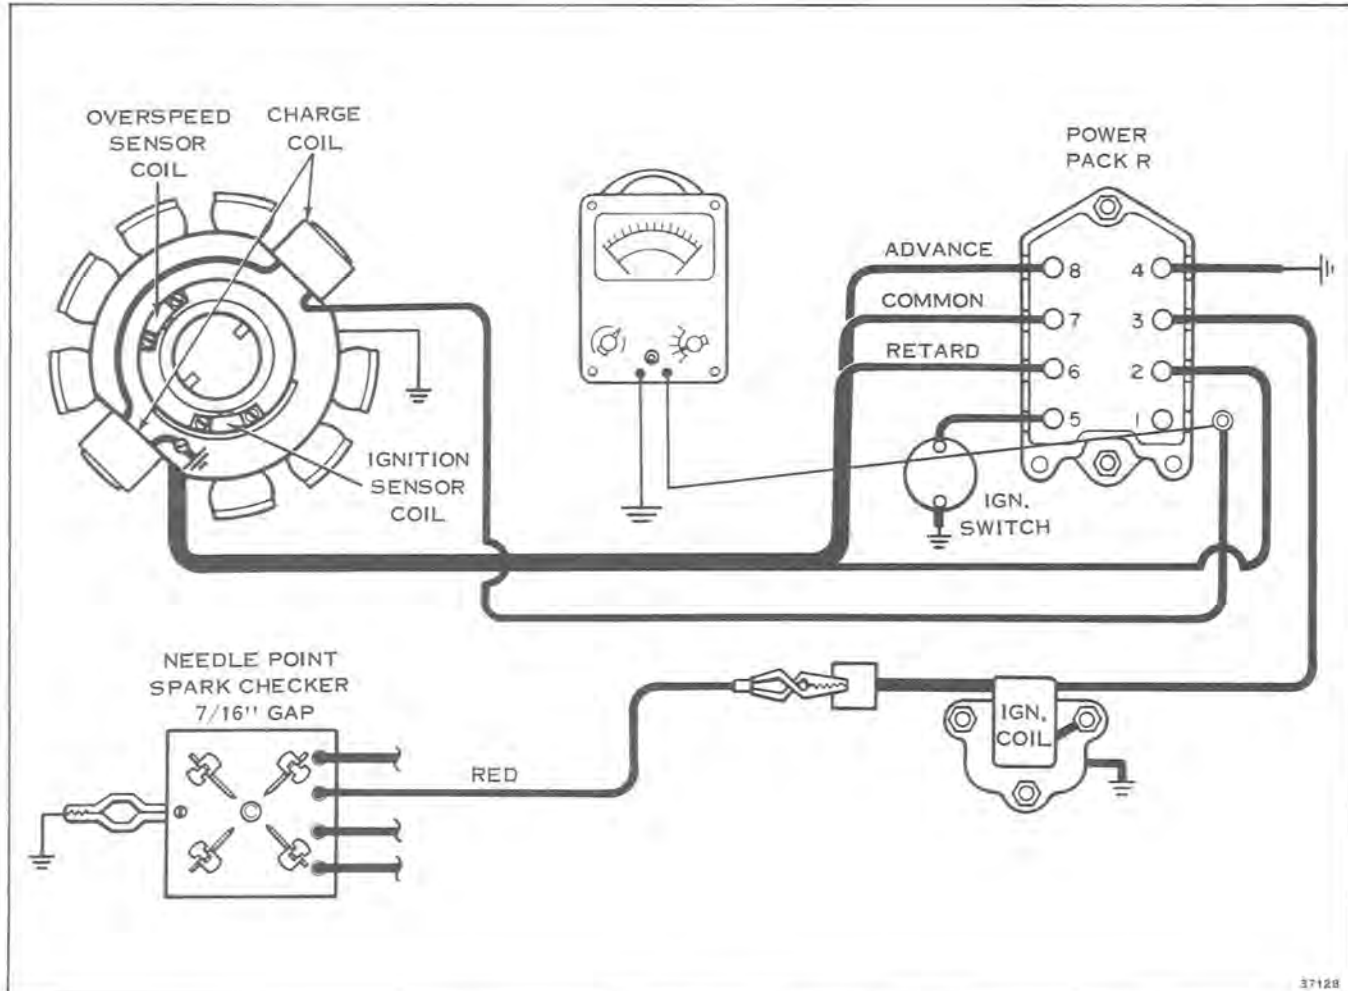

Figure 7-19
- A. Remove the brown/white stripe lead from Power Pack R terminal #1. Check for a total resistance of the two charge coils from lead to ground of  $875 \pm 75$  ohms. See Figure 7-19. If resistance of the charge coils does not come within these tolerances, they must be replaced.